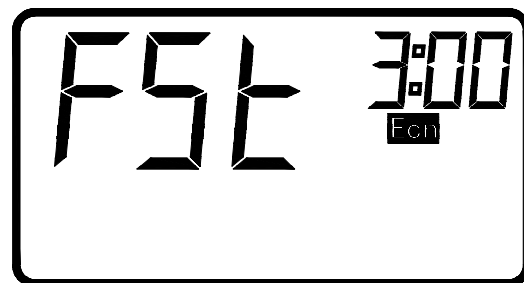

Fig.4: Start time of filtration at 3:00.
At clock setting status, (show as Fig. 4), press “” to set the hour (down button), the adjusting range is from “0 to 23”.And to press the “” to set the minute (up button), the adjusting range is from “0 to 59”
3. When A3= OFF, at setup status of “start time of filtering cycle” (Fig.4).Press “” to change starting time, and both hour and minute are 00.